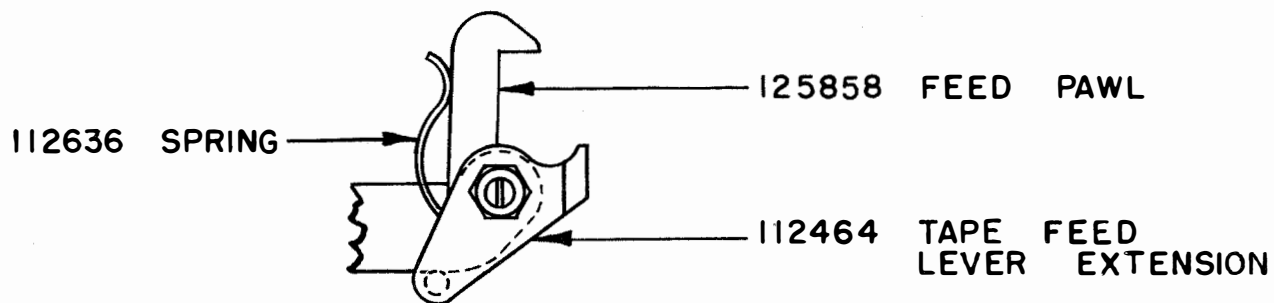

FIGURE 3
*(2) Remove and discard the 112622 screw which mounts the 125858 feed pawl and the 112636 spring. Remount the 112636 spring in the same related position using the 112463 tape feed pawl stud furnished with the set of parts. Hold the numbers 1 and 2 tape sensing pins down out of the way and place the 112464 tape feed lever extension over the stud so that the post of the feed lever extension will extend below the lower edge of the tape feed lever. Lock in place with a 2191 lock washer and 3606 nut being certain that the post of the feed lever extension contacts the lower edge of the tape feed lever (Figure 3).